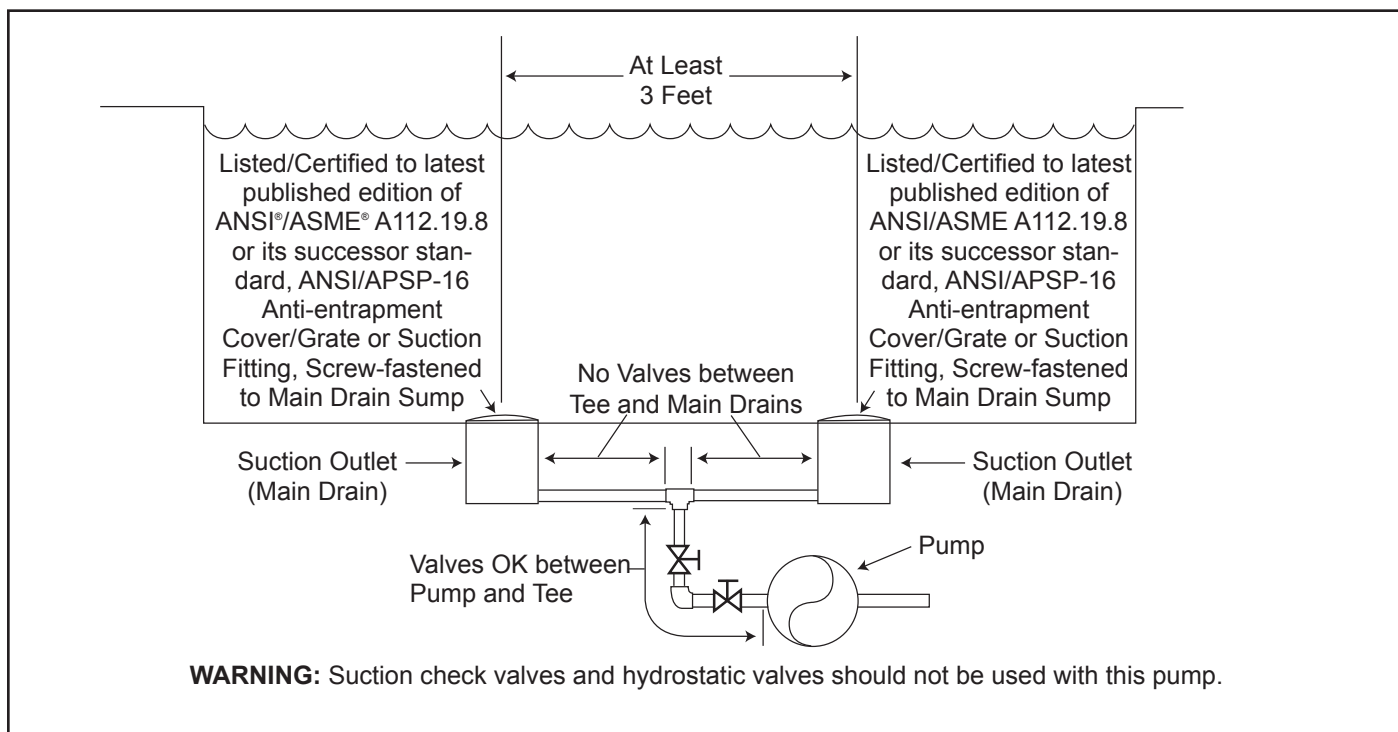

Figure 1. Number of Suction Outlets Per Pump
Number of Suction Outlets Per Pump - Provide at least two (2) hydraulically-balanced suction outlets, with covers, as suction outlets for each circulating pump suction line. The centers of the suction outlets (suction outlets) on any one (1) suction line must be at least three (3) feet apart, center to center. See Figure 1.
The system **must** be built to include at least two (2) suction outlets (drains) connected to the pump whenever the pump is running. However, if two (2) suction outlets run into a single suction line, the single suction line may be equipped with a valve that will shut off both suction outlets from the pump. The system shall be constructed such that it shall not allow for separate or independent shutoff or isolation of each drain. See Figure 1.